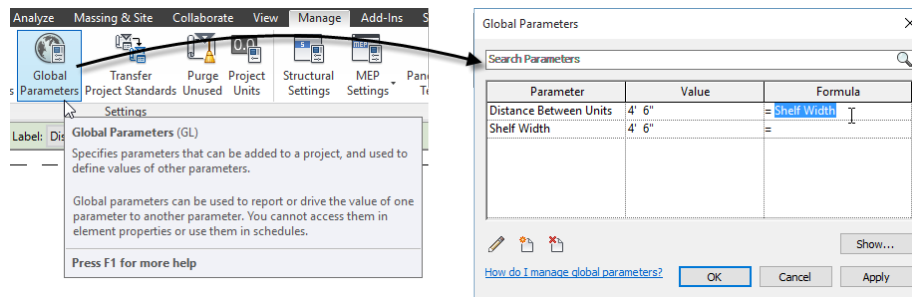

Figure 48
10. Click OK to finish (see Figure 48).